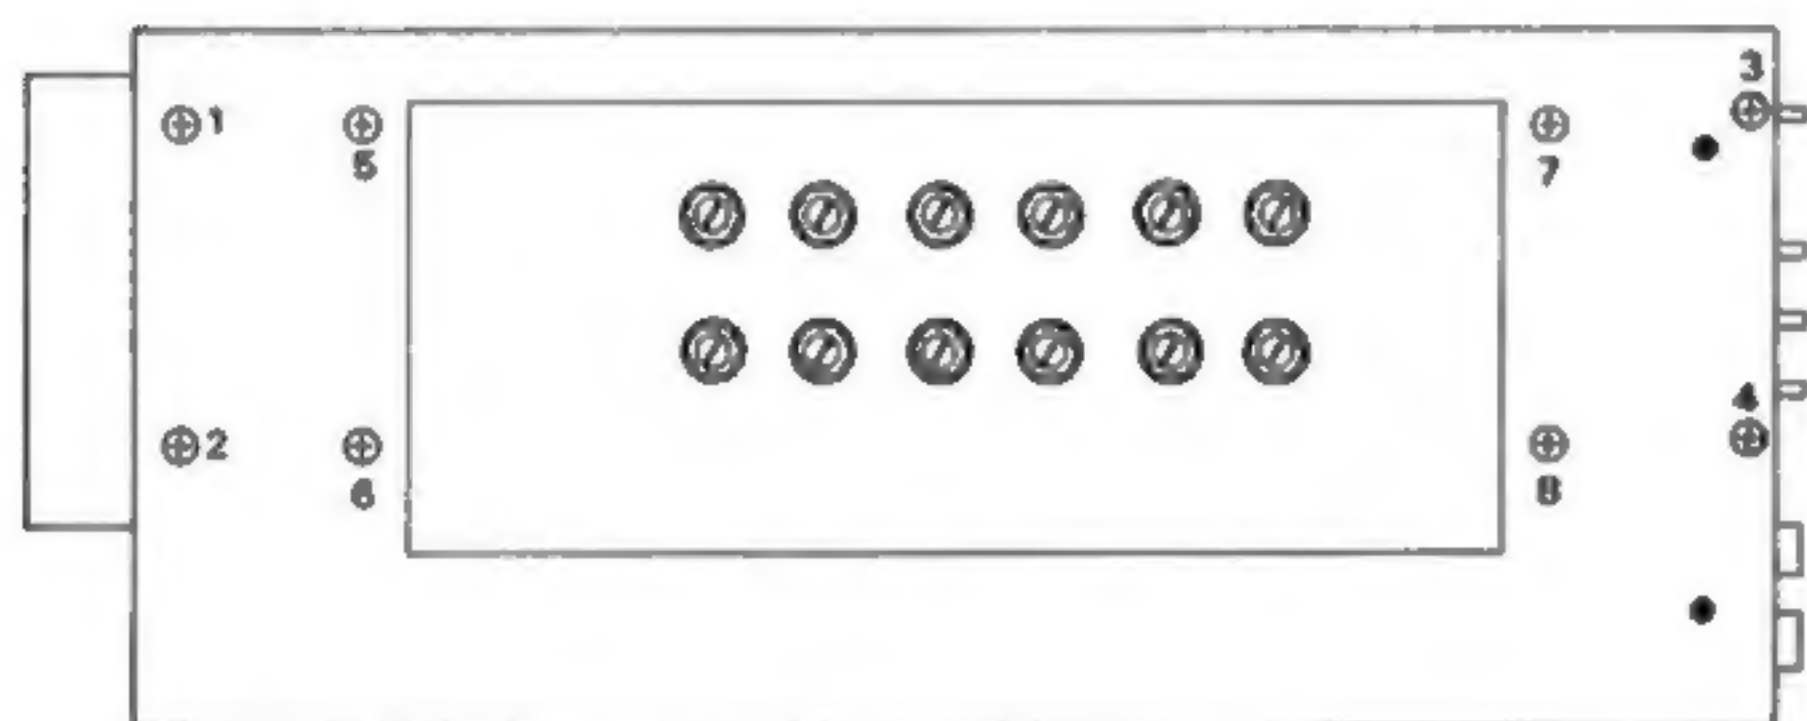

Fig. 1-7 LEFT SIDE VIEW (1)
- After completing procedures 1 to 3, remove the left side panel by unscrewing the 4 left side panel mounting screws. (Fig. 1-7, screws 1-4).
- b) Next, after unscrewing the 8 side panel mounting screws and indicator board mounting screws (Fig. 1-7, screws 1-8), remove the side panel, by holding the side adjacent to the rear panel and pulling it out toward the rear. Remove the indicator board.